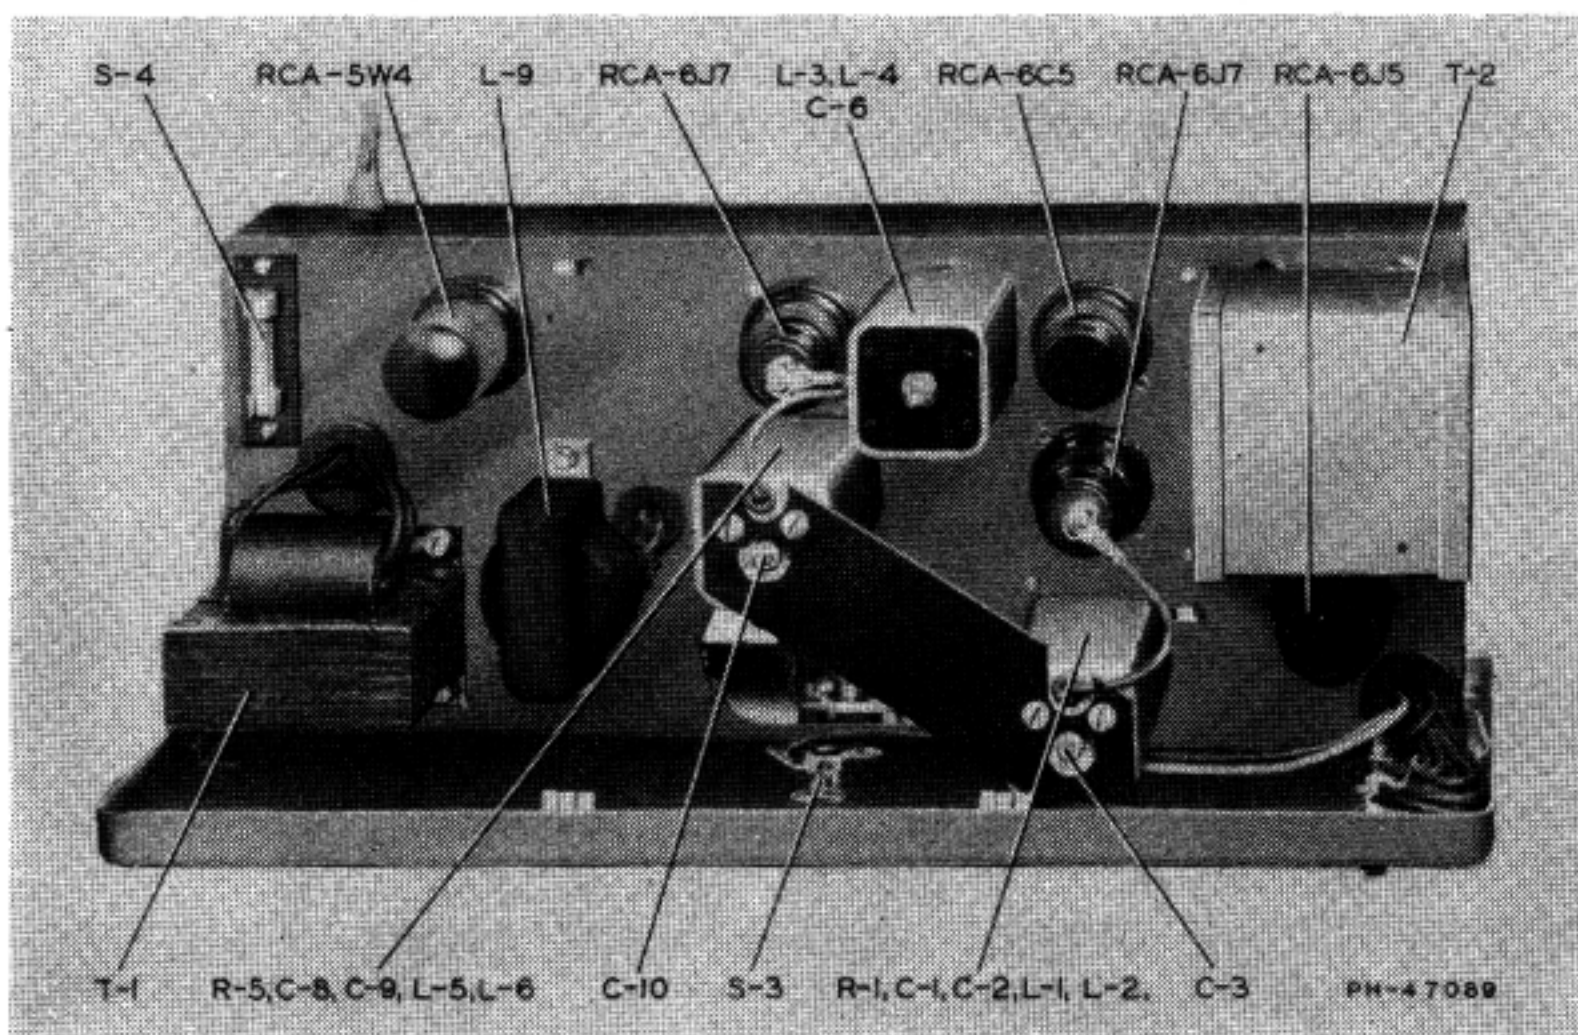

Figure 11—Top View of Chassis
These operations will feed two signals into the receiver: (1) The broadcast station carrier or the calibrator frequency, and (2) the fixed oscillator frequency from the beat-frequency oscillator. The second harmonic of the fixed oscillator will be used for indication, since its fundamental is 350 kc. Adjust trimmer C-3 of the fixed oscillator (see Figure 11 for location) until zero beat is heard in the receiver loudspeaker, indicating that the fixed oscillator is correctly tuned to 350 kc. Disconnect the lead to the receiver antenna connection.
mer C-10 of the variable oscillator (see Figure 11 for location) until zero beat occurs between the two oscillators. This point will be indicated when the neon lamp goes out entirely. A pair of headphones may be connected across the 5,000-ohm output terminals to obtain the same indication of zero beat. The oscillators are now properly aligned, but the “CAL. ADJ.” setting is not correct for operation and must be adjusted as described under “Calibration.”
Connect a 0–30 volt, a-c meter (equivalent load 5,000 ohms) across the two output terminals marked “5000.” If a 1,000-ohm-per-volt meter is used, connect a carbon resistor of approximately 6,000 ohms in parallel with the meter to obtain the equivalent, 5,000-ohm load. Calibrate the instrument properly, as described under “Calibration.” Place the “INDICATOR” switch at “USE” and advance the “OUTPUT” control to maximum. Set the main tuning control to its 1,000-cycle position. Adjust the magnetite core (L-3) on the i-f transformer (see Figure 11 for location) for maximum output.